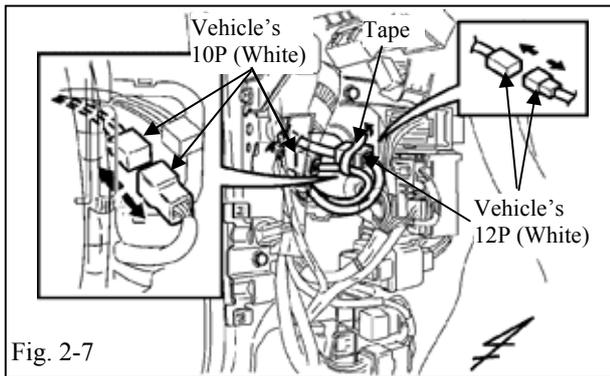

Fig. 2-7
- (h) Locate the vehicle's white 12P connector in the driver side cowl area, and remove the electrical tape from the vehicle's white 12P connector, then disconnect it for clearance. (Fig. 2-7)
- (i) Locate the hole in the driver side cowl area, then pull out the vehicle harness' white 10P connector and disconnect it. (Fig. 2-7)